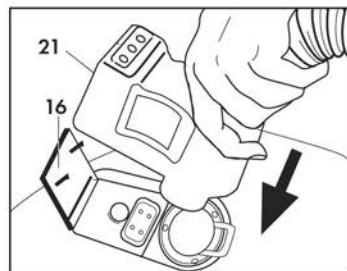

Fig. 6
Close the accessories socket door (16) against the body of the quick connection and ensure that the two parts latch onto each other. (Fig. 6)